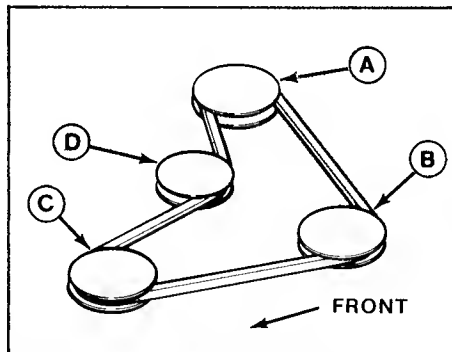

Figure 27. Mower Belt Pattern - 36"
4. Install the new belt on the pulleys. The belt pattern is shown in figure 27.